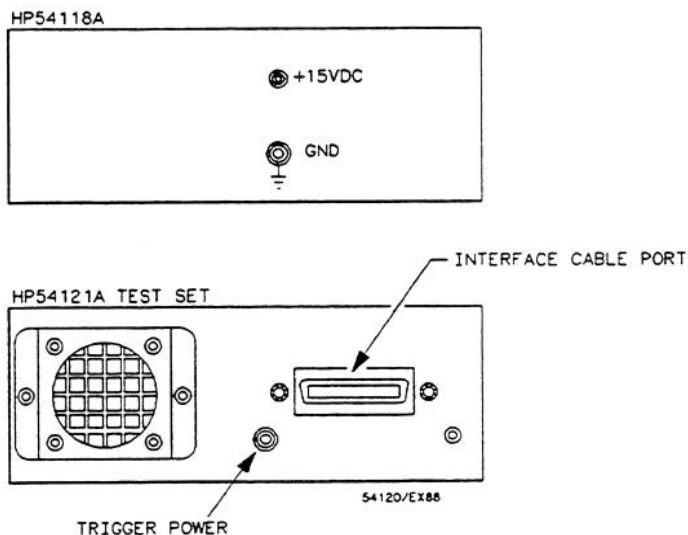

Figure 2-2. External SMB Power Connections
4. Connect external output cable from the HP 54118A's OUTPUT connector to the four channel test set's TRIG input. Refer to figure 2-2.